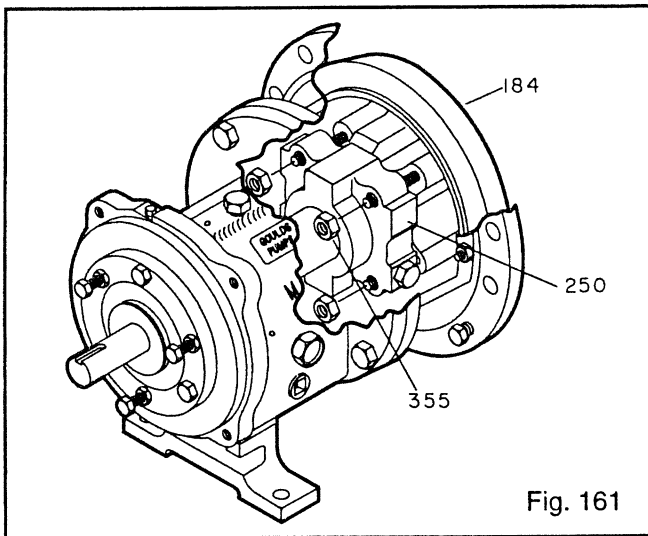

Fig. 161
16. Install gland (107) with nuts (355) (Fig. 161).